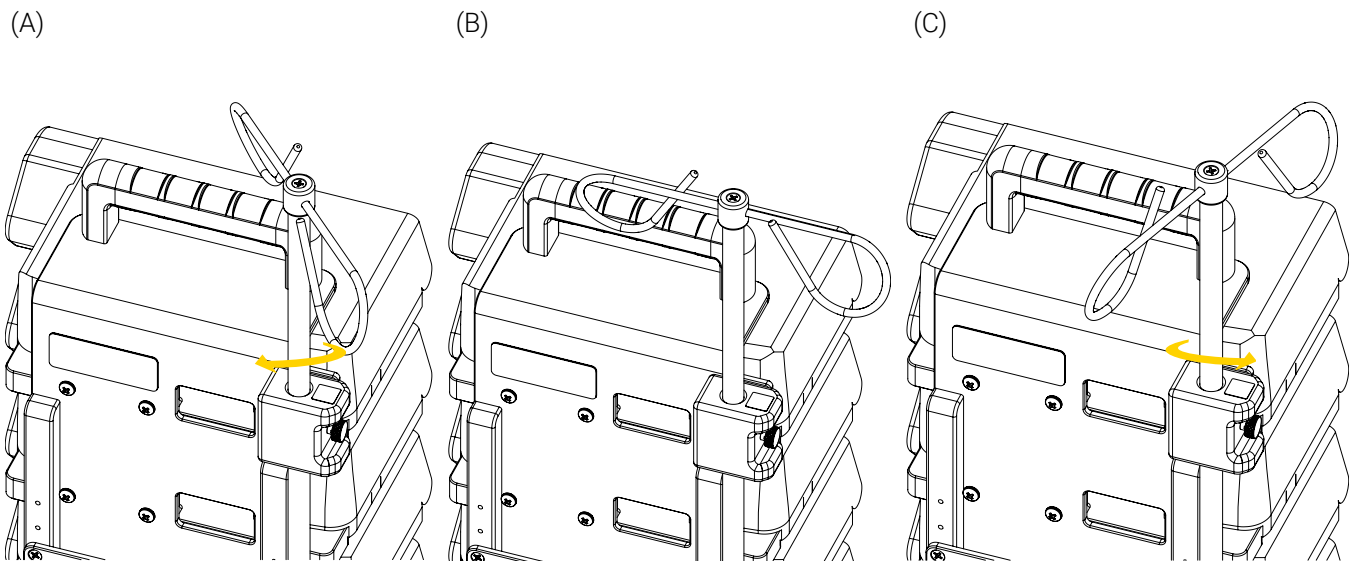

Figure 16: Rotating the IV pole
2. Turn the IV pole clockwise or counterclockwise (Figure 16) to the desired position when needed.